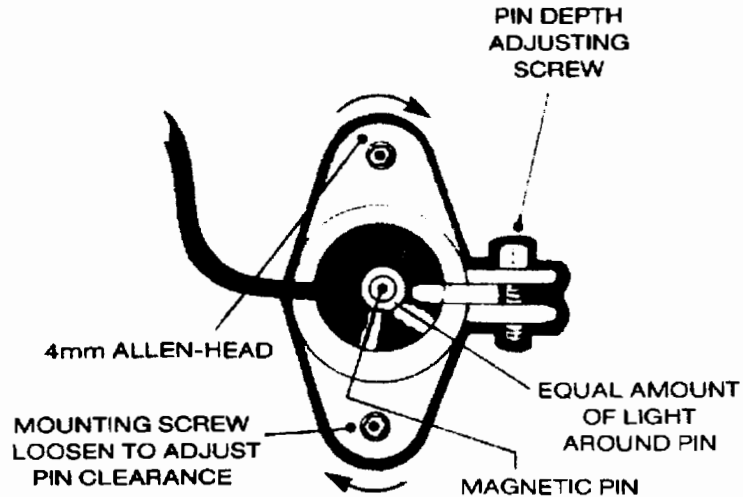

Figure 5-3 Velocity Transducer Adjustment
- a. Switch the printer OFFLINE, and the ON/OFF switch to the OFF (0) position.
- d. Sight through the left end of the transducer while shining a small light (like a penlight) through from the other end. Adjust transducer so that an equal amount of light can be seen all the way around the magnetic pin (see Figure 5-3).
- a. While the printer is powered off, loosen the 3mm allen screw which holds the transducer in the mounting clamp (see Figure 5-3). Loosen just enough to allow the transducer body to slide in and out but tight enough to hold in a desired location before performing the control panel adjustment.
- d. Close the print mechanism swing-gate and switch the printer's ON/OFF switch to the ON (1) position.